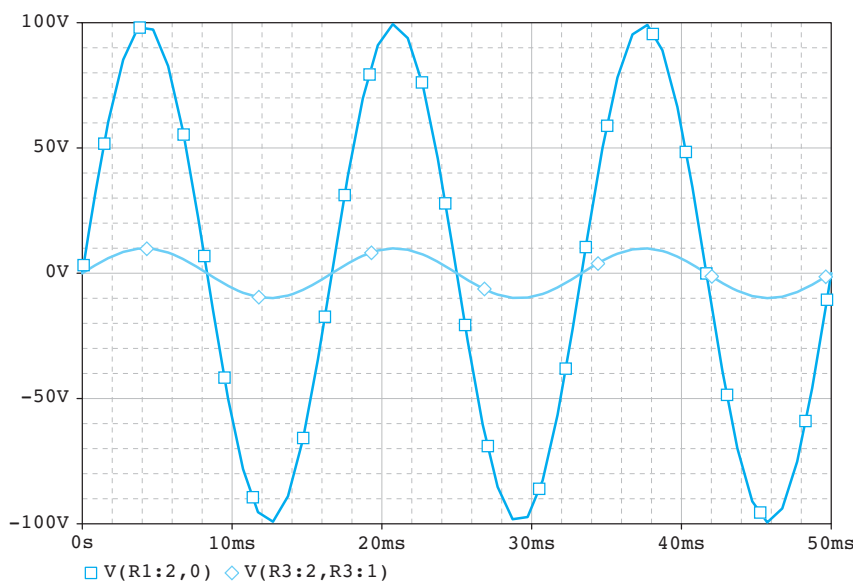

FIGURE 12.45 Simulation result for Example 12.26.
6. The simulation result is shown in Figure 12.45.